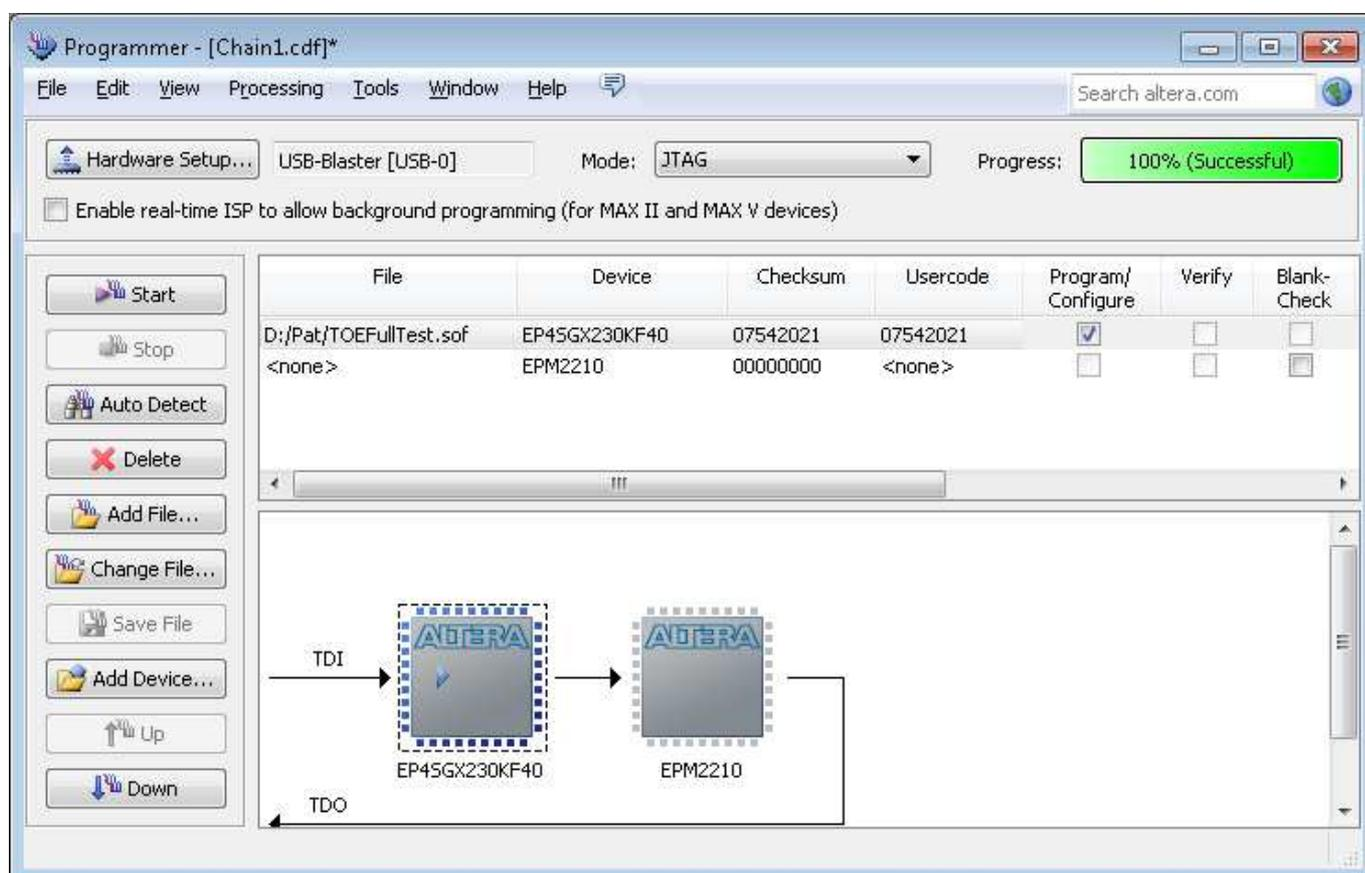

Figure 4-1 Programmer Environment
- Open Quartus Programmer and download SOF file to FPGA Development board, as shown in Figure 4-1.